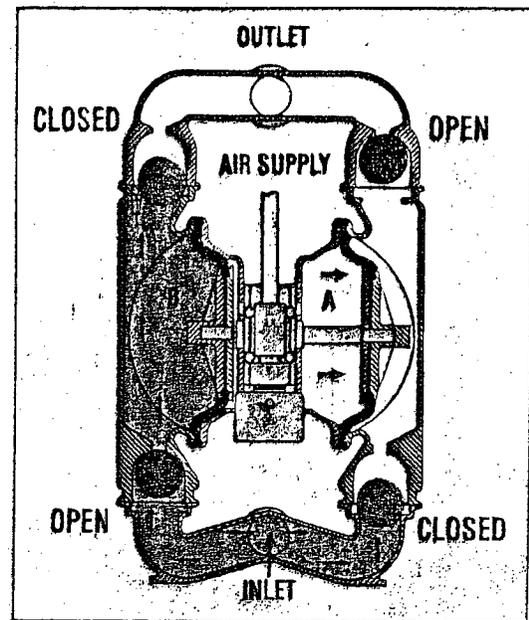

FIGURE 1
**FIGURE 1** The air valve directs pressurized air to the back side of diaphragm A. The compressed air is applied directly to the liquid column separated by elastomeric diaphragms. The diaphragm acts as a separation membrane between the compressed air and the liquid. Driving the diaphragm with air instead of the shaft balances the load and removes mechanical stress from the diaphragm, dramatically extending diaphragm life. The compressed air moves the diaphragm away from the center block of the pump. The opposite diaphragm is pulled in by the shaft connected to the pressurized diaphragm. Diaphragm B is now on its air exhaust stroke; air behind the diaphragm has been forced out to atmosphere through the exhaust port of the pump. The movement of diaphragm B toward the center block of the pump creates a vacuum within chamber B. Atmospheric pressure forces fluid into the inlet manifold forcing the inlet valve ball off its seat. Liquid is free to move past the inlet valve ball and fill the liquid chamber.